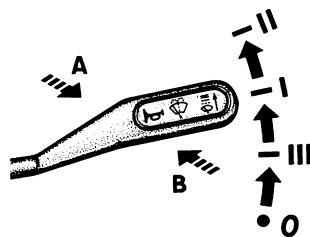

Fig. 4.6. Windshield wiper, washer and horn lever position
2) On some of the vehicles the horn is switched on by means of windshield wiper and washer control lever (see Fig. 4.6).
In case the control lever is equipped with horn switch (fig. 4.6), to turn on windshield wiper and washer momentarily push the lever from position 0 in the direction of arrow "A" and to turn on the horn pull the lever (from any position) in the direction of arrow "B".